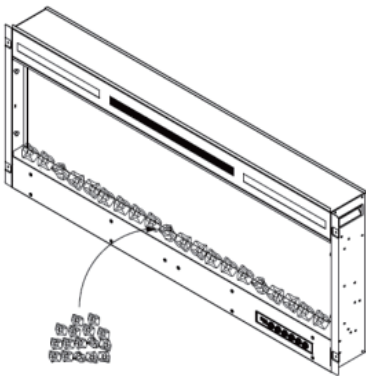

Figure 3.(Crystal medias)
- D. Place the plastic tray(I) to the fireplace designed place. Then carefully place crystal embers into the bottom tray on the front of the appliance as illustrated. Apply an even layer from side to side. Figure 2, Figure 3.